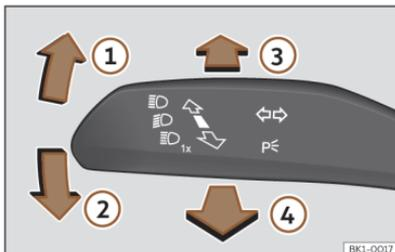

Fig. 104 Turn signal and main beam lever (depending on the version).
- From the base position, press the turn signal and main beam headlights lever forwards >>> **Fig. 104 ③**.
- **EITHER:** if main beam assist is on, pull the turn signal light and main beam headlights lever back >>> **Fig. 104 ④**.